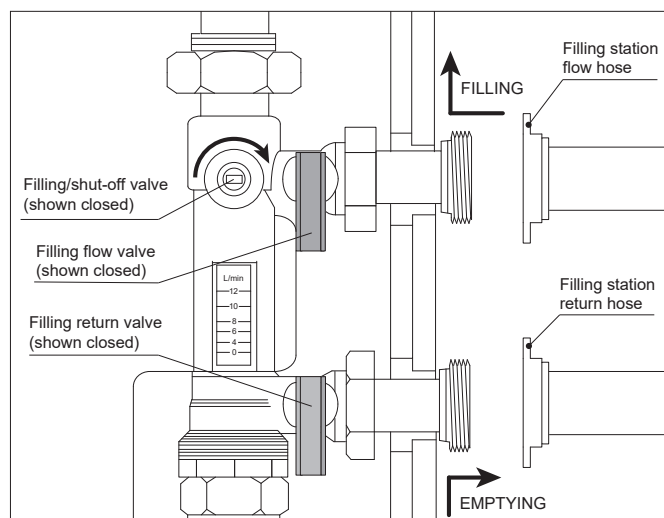

Figure 4-2: Detail A - Closing filling/Shut off valve to prepare to fill the system
To enable filling/flushing of the system, the Filling/Shut-off valve must be rotated fully 90° clockwise. Refer to Figure 4-2. This will divert the flow from the filling station, entering the system via the Filling flow valve, through the pump, up to the collectors, through the coil of the cylinder and back to the filling station via the Filling return valve.
1. Connect the pressure hose from the Filling Station to the Filling Flow valve connection and open the valve. Refer to Figure 4-2.
2. Connect the return hose from the filling station to the Filling Return valve connection and open the valve. Refer to Figure 4-2.